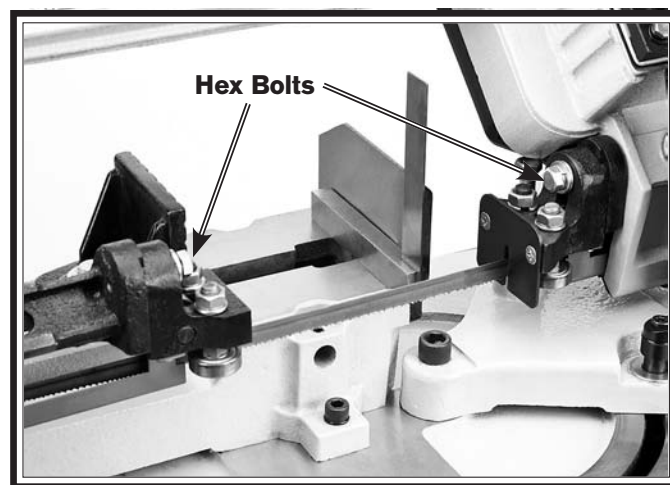

Figure 48. Squaring the blade.
3. Place a square on the table bed and against the edge of the blade, as shown in **Figure 48**, then check different points along the length of the table between the blade guides.
4. If the blade is not square to the table, loosen the hex bolts shown in **Figure 48** and rotate the guide bearing assemblies as necessary until the blade is perpendicular to the bed, then re-tighten the hex bolts.